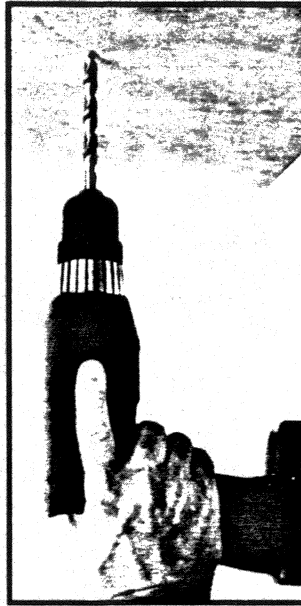

Fig. 6
**WARNING:** The front end of driver/drill may be made live if the tool drills into live wiring in the wall. **TO PREVENT ACCIDENTAL ELECTRICAL SHOCK, DRIVER/DRILL MUST BE HELD AS SHOWN IN FIG. 6.**